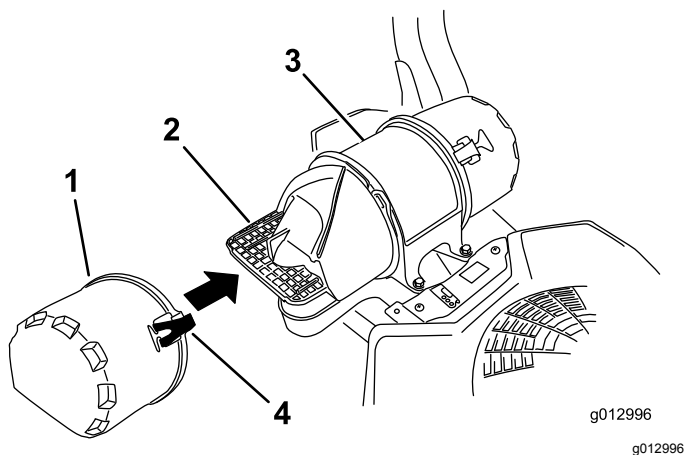

Figure 33
3. Release the latches on the air cleaner and pull the air-inlet cover off the air-cleaner body (Figure 33).
5. Install the air-inlet cover and secure it with the latches (Figure 33).